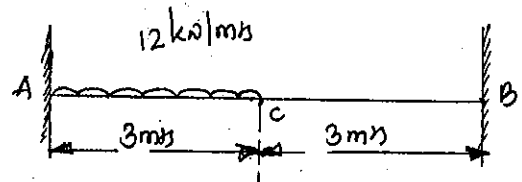

Fig.Q6(b)
- b. Analyze the beam shown in Fig.Q6(b), by strain energy method. Also, draw the BMD. (10 Marks)